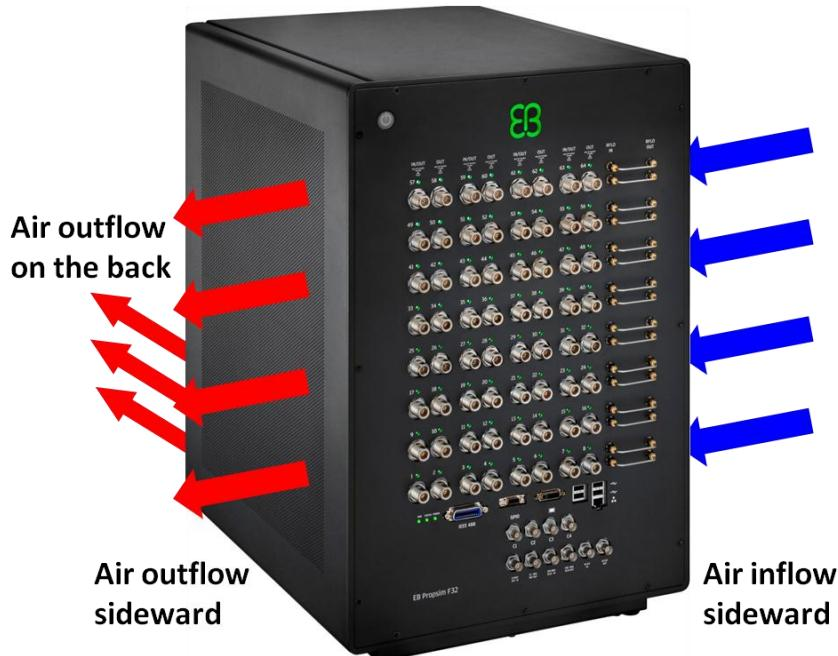

Figure 25. Air inflow and outflow on sides and back of the emulator
- During the use free, unrestricted air flow must be allowed around the device to ensure proper cooling. Figure 25 below depicts the air inflow and outflow vents on the sides and back of the emulator.